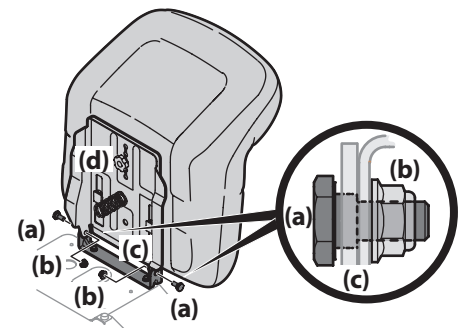

Figure 2-7
6. Install the two shoulder bolts (a) and lock nuts (b) removed from the seat mounting bracket (c) in Step 1. See Figure 2-7.
7. To adjust the position of the seat, loosen the adjustment knob (d) on the bottom of the seat. Slide the seat forward or backward as desired. Securely retighten the adjustment knob (d). Refer to Figure 2-7.